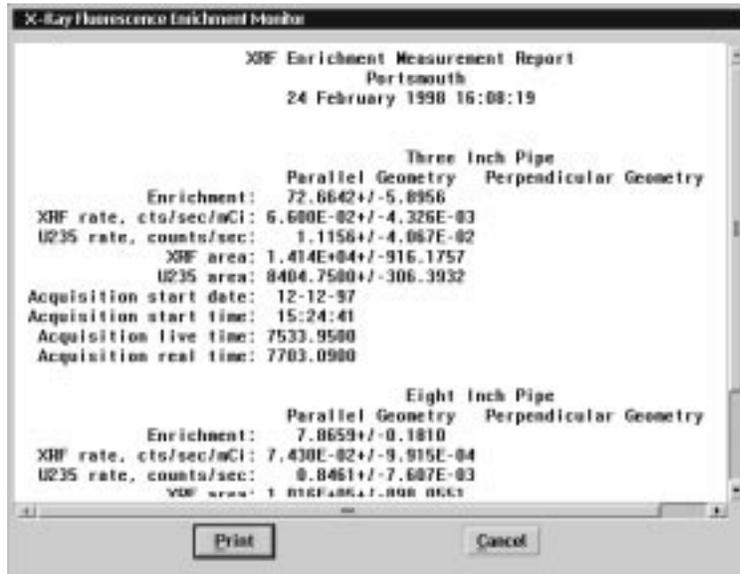
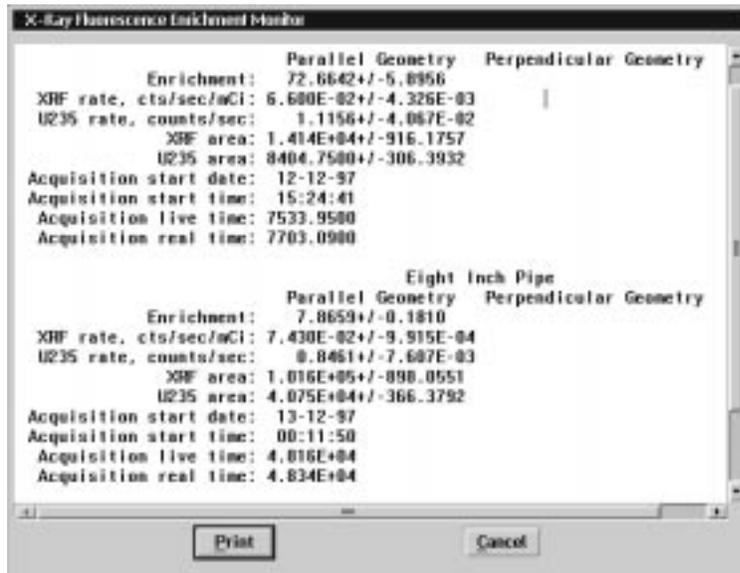

Figure 38a. The “Print Results” window.
Figure 38b. The bottom of the “Print Results” window.
26. Selecting “Print Results” will present the screen shown in Figure 38a. The bottom of the “Print Results” screen can be seen by using the scroll bar on the right (see Figure 38b). Select “Print” to print the results and return to the main menu.